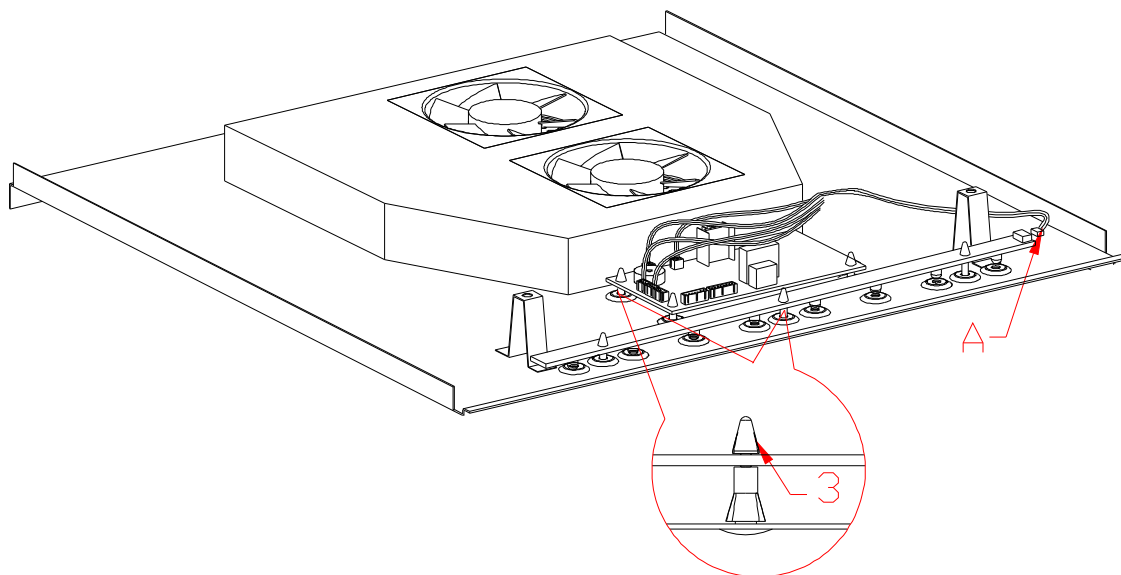

Fig.34
③ The divide structure electrical removal.(in this version PCB board is divide into 2 blocks, one is power PCB,the other is control PCB)
a. Remove the the shelf , and remove the upper cover of the air-duct panel(Fig.13), expose the whole PCB board(Fig.34)
b.Unplug all the connector, press the 4 studs (3) one by one. Updraw the control PCB board, and draw off the PCB board, , replace it with the same model's PCB board. (Fig.34)
(Fig.34)